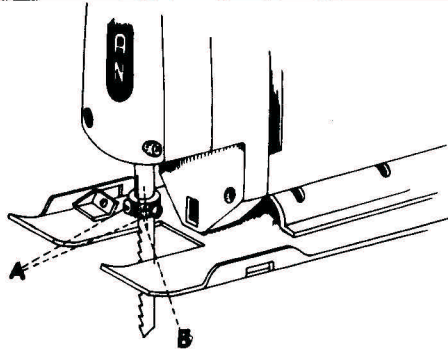

Fig. 1
INSTALLING BLADES—(See Fig. 1)—**IMPORTANT—BE SURE POWER CORD IS DISCONNECTED FROM POWER SUPPLY.** Loosen both blade screws (A) with screwdriver, and insert saw blade into slot in saw bar (B) as far as it will go.